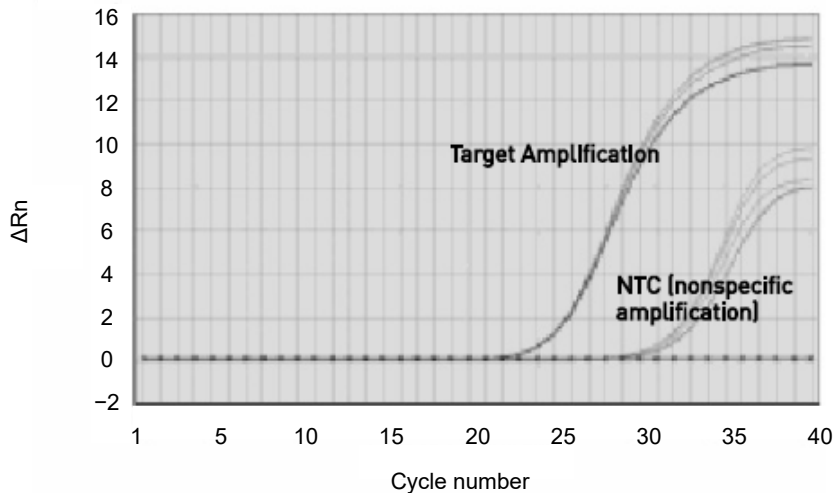

Figure 12 Amplification plot (linear view) demonstrating suspected nonspecific amplification in NTC wells
**Note:** In Figure 12 on page 32, the strong amplification of the NTC wells indicates that significant nonspecific amplification is occurring.